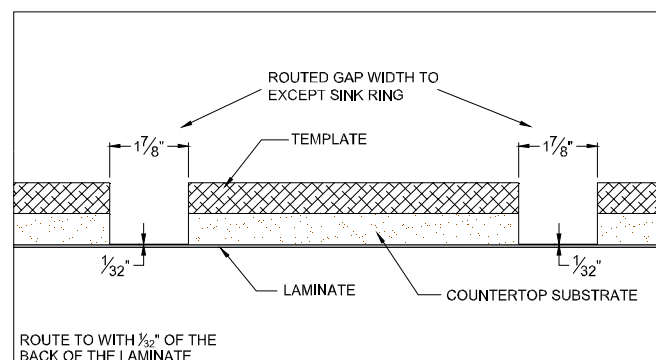

Figure 26D
- Index a  $3\frac{1}{4}$  HP or  $2\frac{1}{2}$  HP plunge router with a  $1\frac{1}{8}$  x 1" top bearing flush trim router bit to remove the substrate. (FIG. 26D)